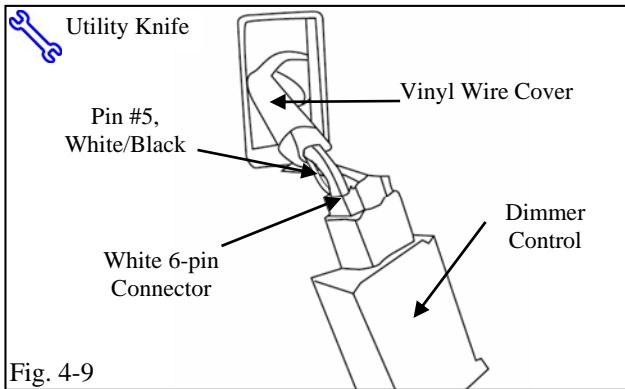

Fig. 4-9
- (n) Apply blue T-tap to the White/Black wire about 3/4 inch back from connector with needle nose pliers. (Fig. 4-9)
- (1) Make sure T-tap halves are snapped together and secured.